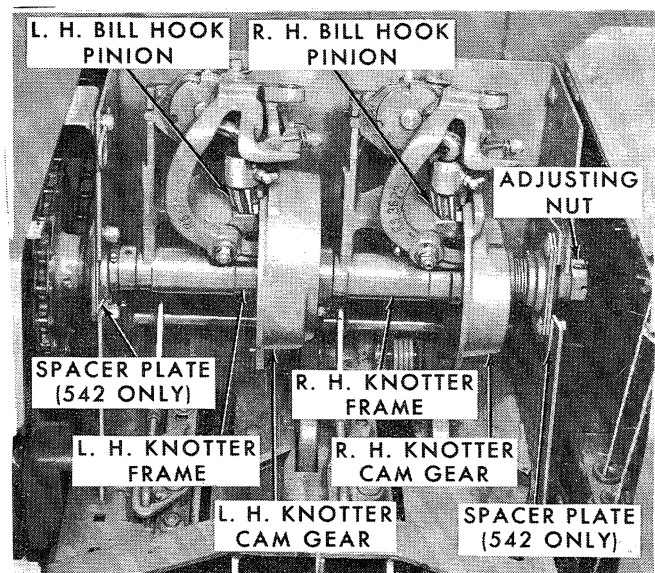

Figure 98
14. Position the assembled knotted shaft between the knotted housing side plates, Figure 98. Bolt the flange of each bearing to the left-hand side of the plates as shown.
IMPORTANT: Series 542 Hay Balers Only: Be sure to install the 0.100" spacer plates between the bearing flanges and the knotted housing plates as shown in Figure 98. The plates compensate for the variance between the Series 532 and Series 542 bale chamber widths.